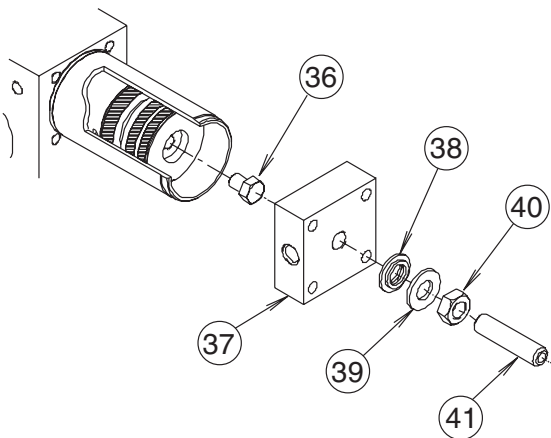

Figure 5
**Stroke Adjust Options (See Figures 5, 6 & 7)**
**Parts List (Figure 5, 6 & 7)**